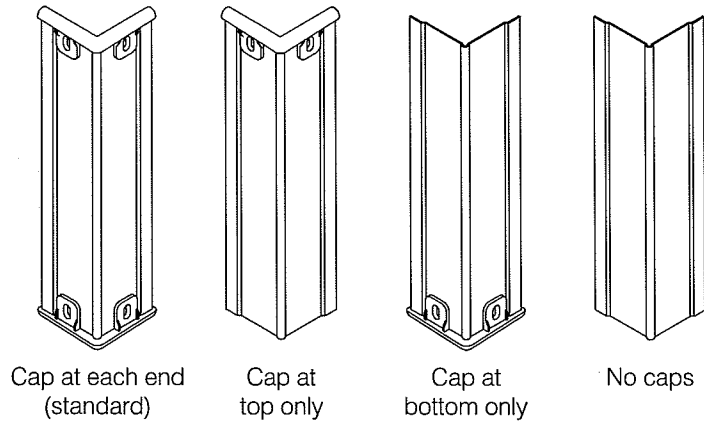

fig 1
- Step 1:** This series of corner guards is available with molded closure caps. While the installation of a cap at each end is considered standard these corner guards may also be installed with no caps or with a cap at either end, see **fig 1**.